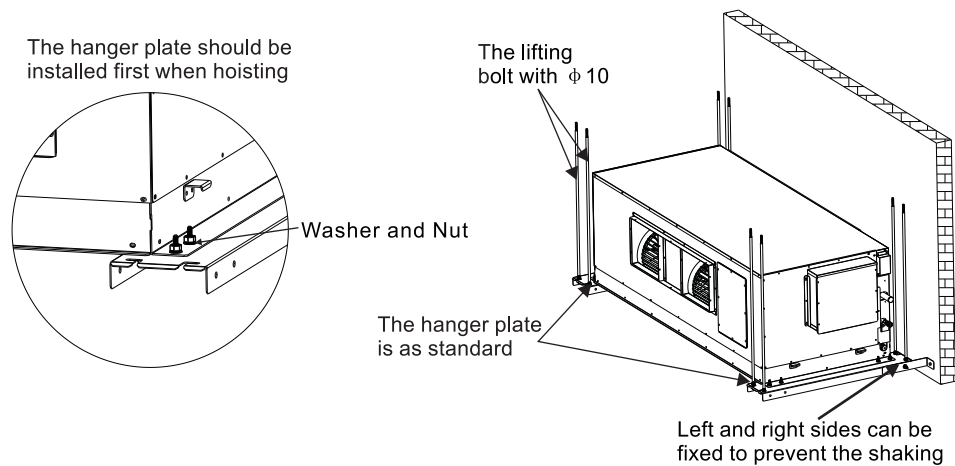

Figure 3.8
4) The high static pressure ducted unit 45.0kW~56.0kW and the fresh air 45.0kW~56.0kW need use hanger plate to install. The hanger plate is as standard. (The hanger plate should be installed when hoisting, and use the eight lifting bolt with $\phi 10$). Refer to Figure 3.8.